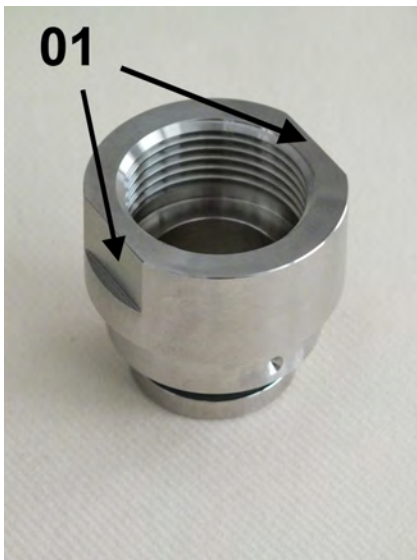

Fig. 45: Spanner flats
7.  Position the process connection (inlet) (Fig. 45/01) so, that the spanner flats are at a 90° angle to the sight glass scale. The locating bore in the process connection must be centered on the front of the device housing locating screw.